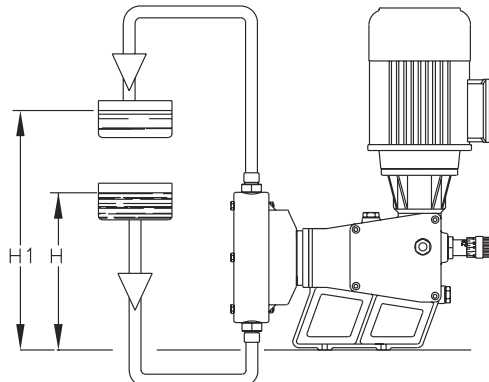

Fig. 6 - Ideal installation
- flooded suction (Ref. H - Fig.6)
- positive discharge head (Ref. H1 - Fig.6)